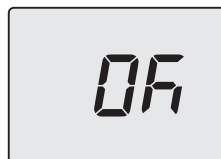

Fig. 10.6
- Press button 12 (Fig. 10.1) to confirm the value entered. The display will show the following (Fig. 10.6) for 5 seconds, then move up to the next level.